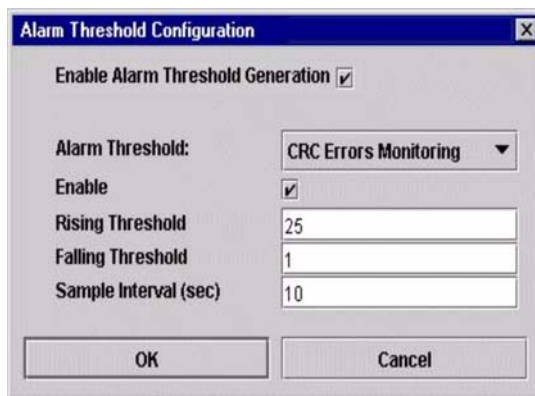

Figure 14. Alarm Threshold Configuration window
2. The Alarm Threshold Configuration window shown in Figure 14 on page 103 prompts you to select an event, set thresholds, set a sampling interval, and enable or disable the alarm.